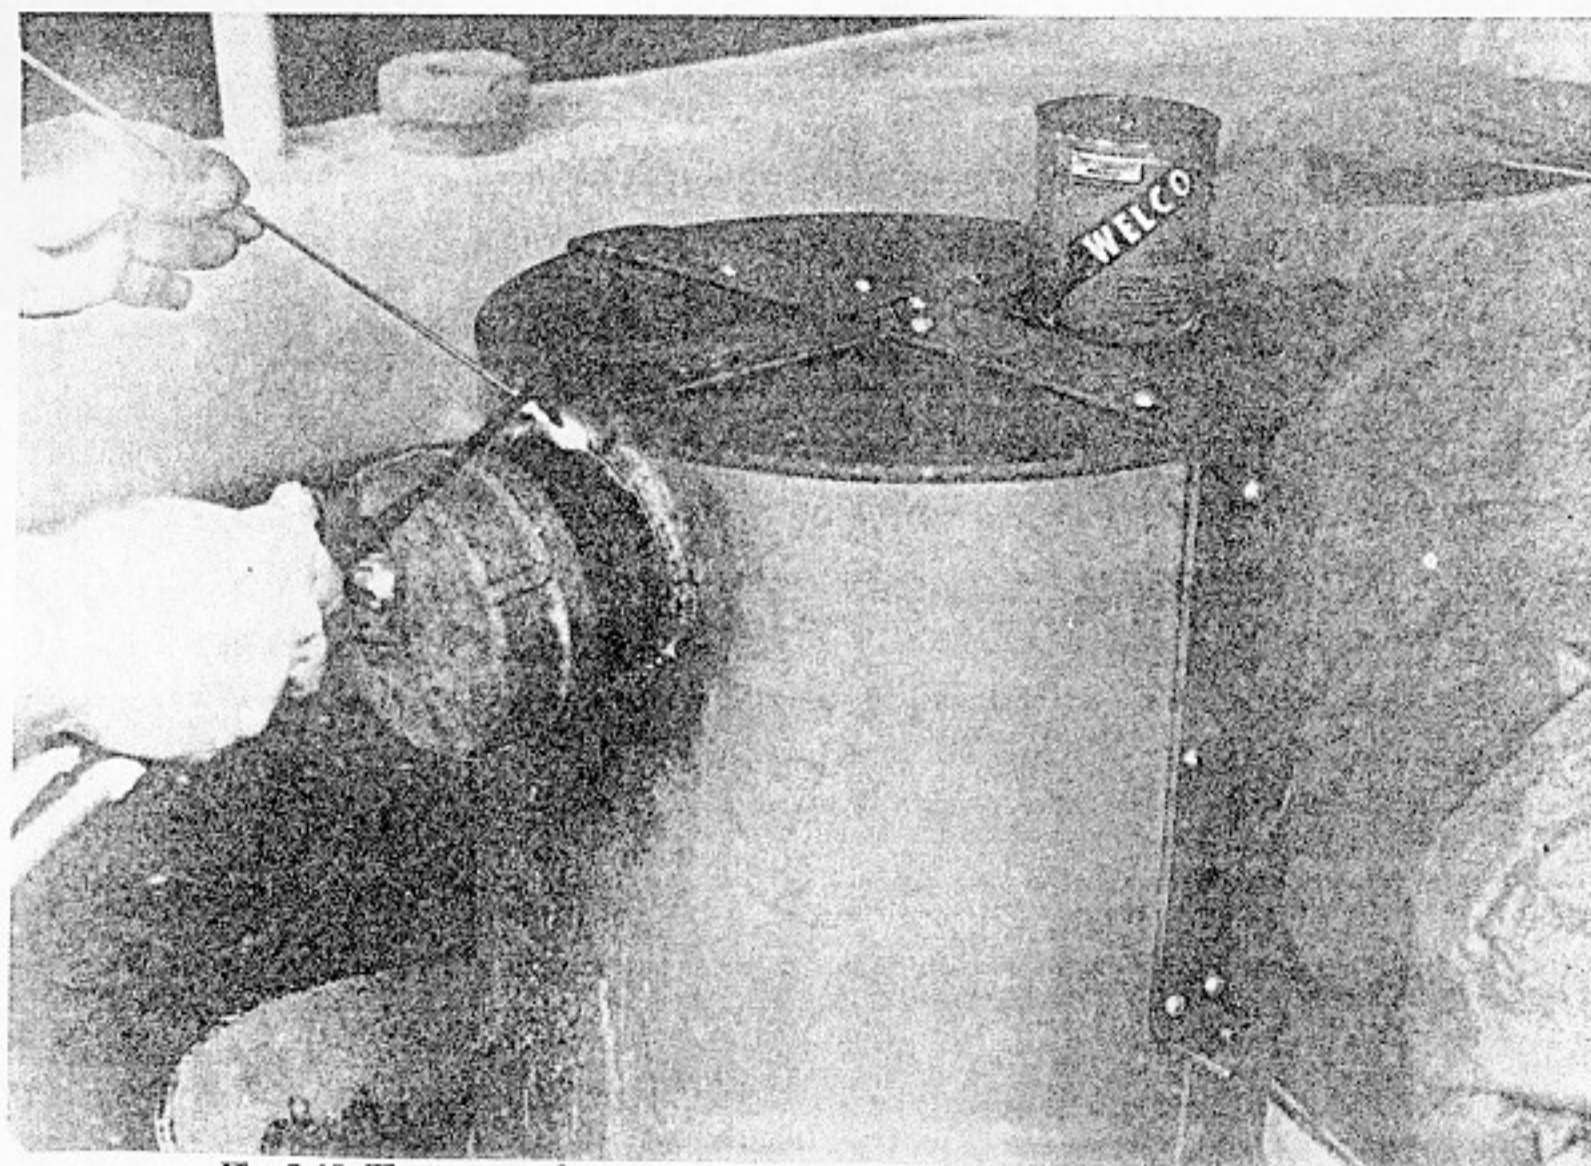

Fig. 2-10. The support frame can be brazed or bolted to the side of the gasifier unit. All bolts should be sealed air tight.
12. Fabricate the supports (Item 13A) for the gasifier unit housing drum (Item 3A) out of rectangular, iron bar stock. The shape and height of the support flanges must be determined by the frame of the vehicle to which the gasifier is to be mounted. The supports can either be bolted to the bottom and side with the 1/4-in. bolts (Item 14A) or can be brazed directly to the drum; see Fig. 2-10. Remember to seal all bolt holes for airtightness.